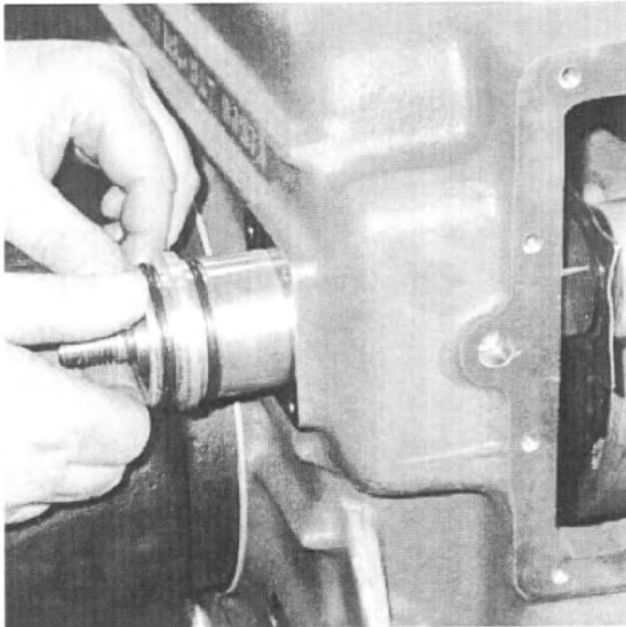

Fig. 96
34. Using a new o-ring, insert the adapter tube for the high-low shift cylinder into the transfer case. See Fig. 96.